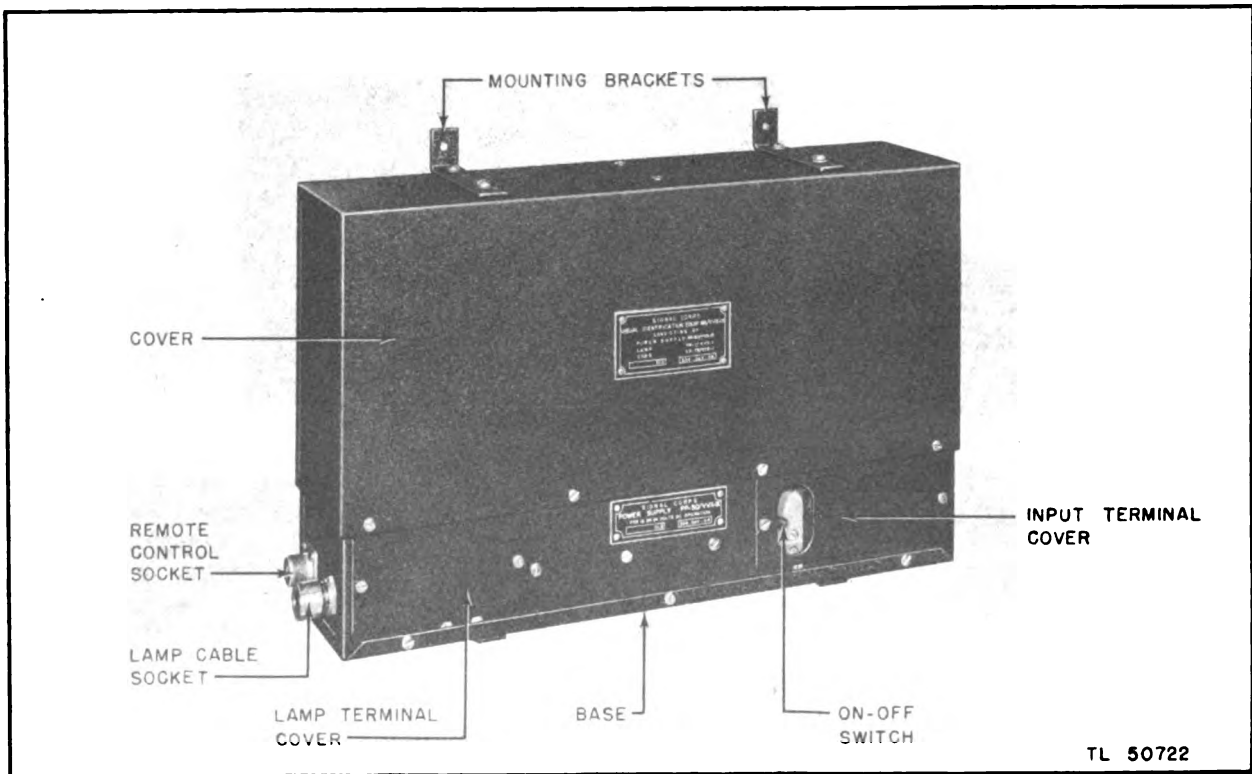

Figure 3. Voltage Converter PP-49/VVX-1 or PP-50/VVX-1X.
AN/VVX-1 and AN/VVX-1X are identical in external appearance (fig. 3), since they are both inside a rectangular sheetsteel case with removable cover and base. The holes through the cover and base are used for attaching the mounting brackets supplied with the equipment. The chassis is a rectangular shallow case. On the right-hand side of the front of the chassis, an input terminal cover is mounted over a recessed panel which contains the ON-OFF switch, a fuse receptacle, and the input terminal. On the left-hand side of the chassis front, a lamp terminal cover is fastened over another recessed panel on which is mounted the output terminal block. A large hole on the end of the chassis nearest the input terminals permits the input cable to be inserted and attached to the terminals. On the other end a cable clamp is provided to hold the lamp cable in place. A 2-pin socket on the same end of the chassis provides a means for attaching a remote-control trigger device. The voltage converter unit steps up the input voltage to approximately 2,000 volts direct current.
a. Converter mounting brackets are supplied in a set of four. They are steel rods bent at right angles, $4\frac{1}{8}$ inches long, with a $1\text{-}\frac{3}{16}$ -inch vertical portion. The brackets each have two mounting holes which correspond to the mounting holes on the converter unit. Two of the rods are fastened to the top of the Voltage Converter PP-49/VVX-1 or PP-50/VVX-1X, and two are mounted on the base (fig. 3).
f. Remove lamp terminal cover (fig. 3).
n. Unless a remote control device is available, no connection is made to the remote control socket on the left-hand end of the chassis alongside the lamp cable socket (fig. 3).